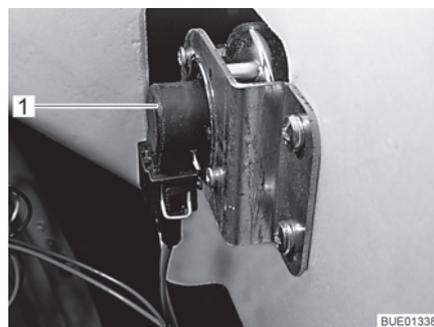

Fig. 217 Direction indicator
- Put your hand behind the lamp holder (Fig. 217,1).